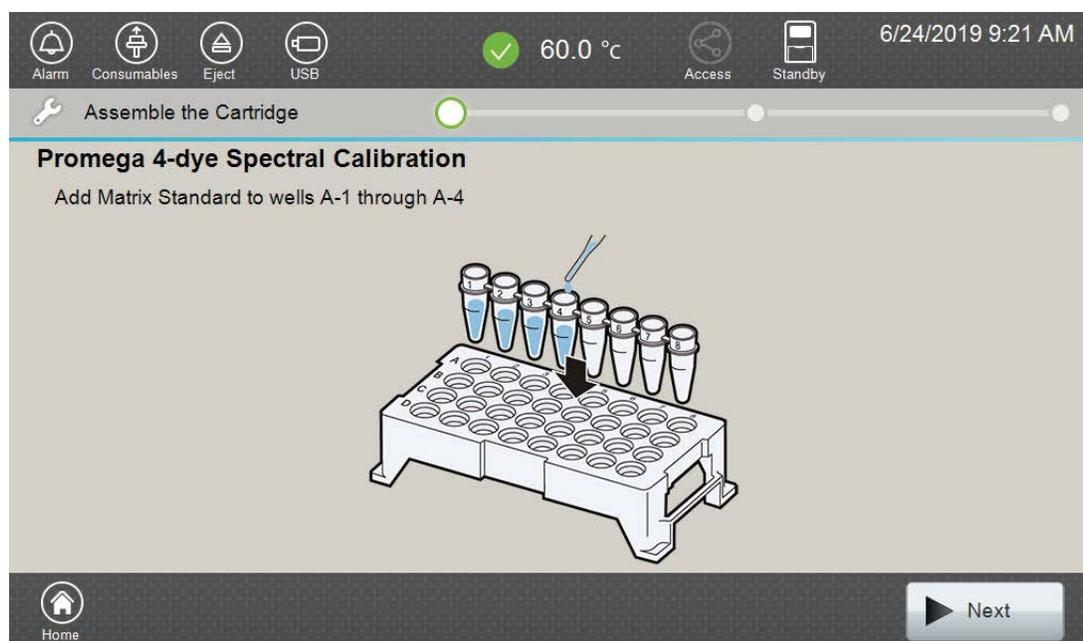

Figure 21. 'Assemble the Cartridge' screen.
4. Use the scroll arrows on the right-hand side of the 'Dye Set List' screen (Figure 20) to find the correct Dye Set/Application Type/Polymer combination from the displayed list. To perform a spectral calibration using the PowerPlex® 4C Matrix Standard on Polymer4, select "Promega 4-dye" with "Fragment" and "Polymer4" as application and polymer types, respectively, then select **Calibration**. The 'Assemble the Cartridge' screen will open (Figure 21).
5. Select **Next** on the 'Assemble the Cartridge' screen (Figure 21). A message window will open indicating that the autosampler is moving and telling the user to not open the door. In addition, the status indicator flashes green while the autosampler is moving. After autosampler movement is complete, the message window closes and the status indicator returns to a steady green.